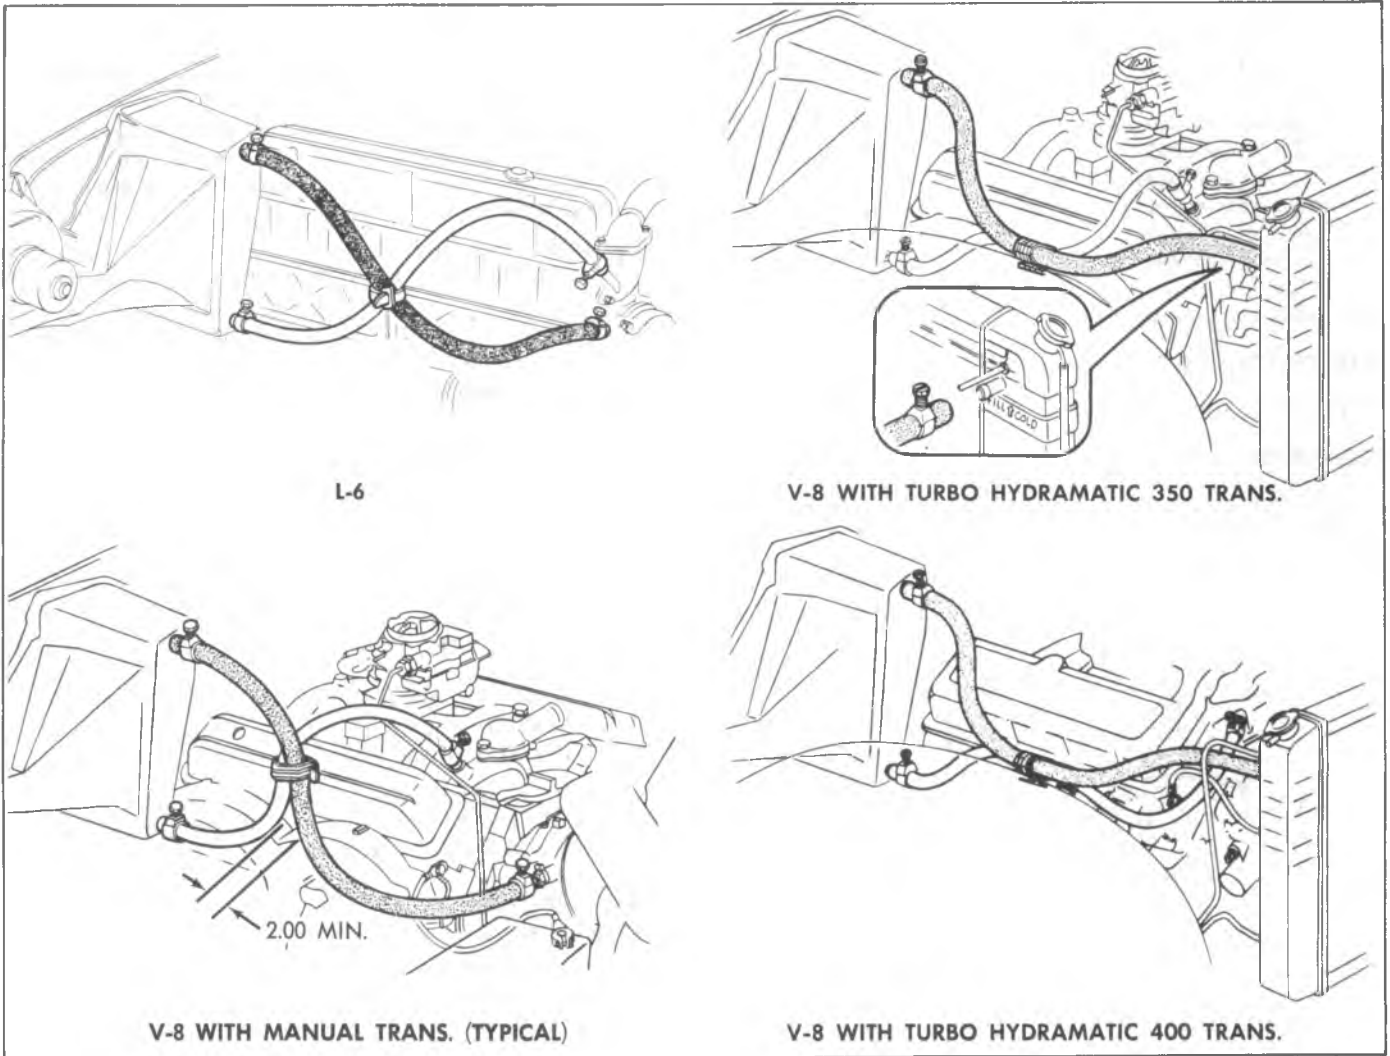

Fig. 4—Heater Hoses
4. Disconnect heater hoses at the core tubes (fig. 4).